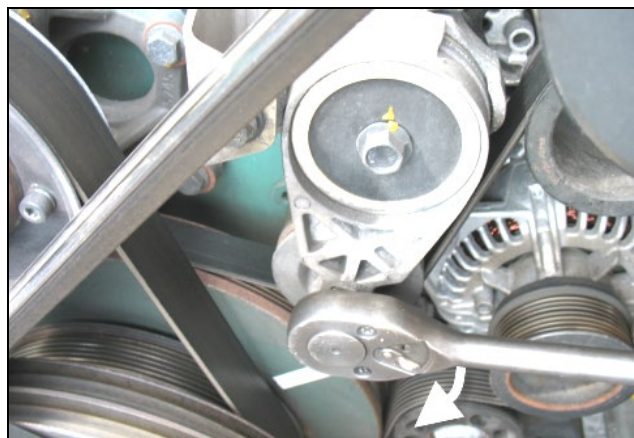

FIG.3 1/2" RATCHET USED TO TWIST TENSIONER ARM
6. Insert a 1/2" ratchet into the alternators automatic belt tensioner opening and twist the tensioner arm to slacken the alternator belt (Fig.3).